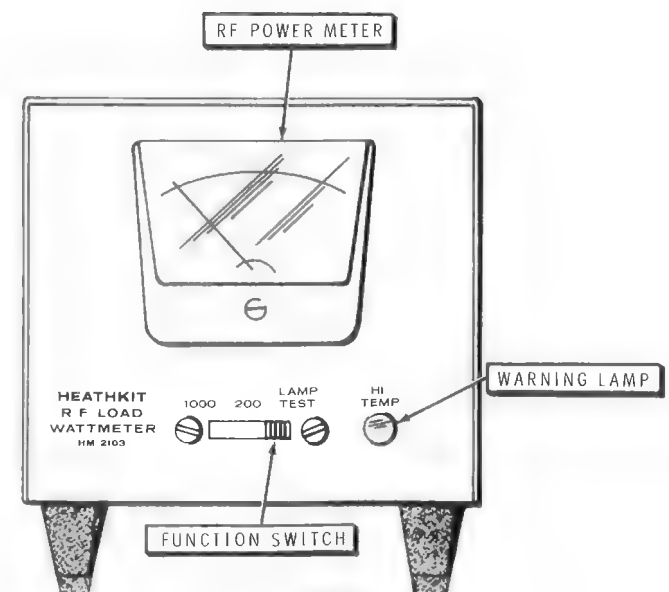

Figure 3
- () Set the FUNCTION switch to LAMP TEST (see Figure 3). The lamp should light, which indicates that circuit is working correctly. Leave the switch in this position for the following steps.